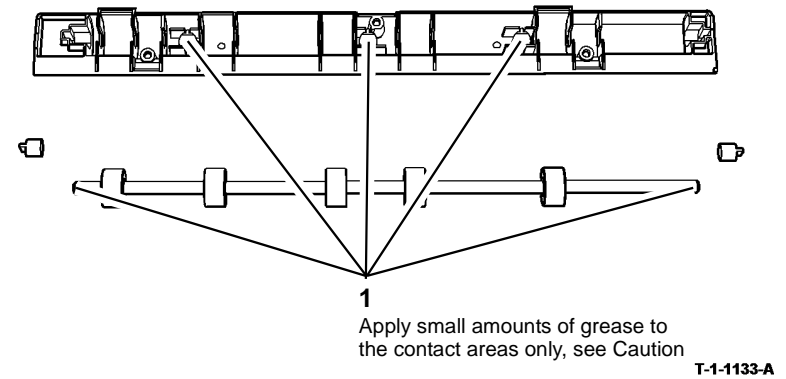

Figure 3 Lubricant application
4. Use plastislip grease, PL 26.10 Item 8 to lubricate the nip roll shaft contact areas of the housing, Figure 3.